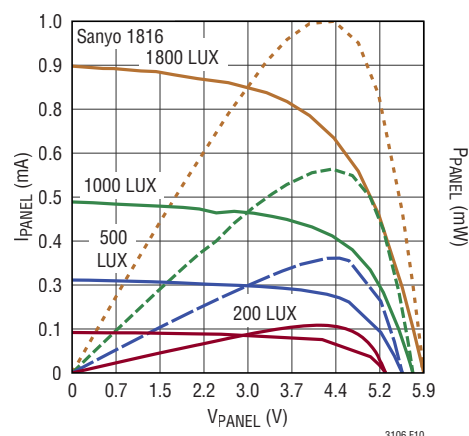

Figure 10. Measured I-V and P-V Curves Under Variable Light Conditions
The I-V and P-V curve for the AM-1816 panel is shown in Figure 10. The maximum power from the cell (PMAX) changes with light level but the voltage at PMAX changes only slightly. The VIN threshold voltage in this application example is set to equal the voltage at PMAX using the resistive divider on the RUN pin. 4.2V is chosen for the VIN(OV) set point so that it is slightly below. With internal hysteresis the VINUV is then 3.8V so the average VIN voltage of ~4V is at the maximum power point from the manufacturer I-V and P-V data on the AM-1816 solar cell.
If the light conditions become more favorable  $V_{\text{IN}}$  will rise to the open-circuit voltage of the harvested source. Note if the open-circuit voltage of the harvested source will exceed the maximum voltage rating, an appropriate clamp should be added to prevent damage to the LTC3106. Figure 10 shows the open-circuit voltage of the AM-1816 can be greater than 5V. If full light is expected, a low reverse leakage current Zener diode is recommended to clamp  $V_{\text{IN}}$ . The DZ23, AZ23 and GDZ series with a Zener voltage of 4.7V or 5.1V are a good choice.